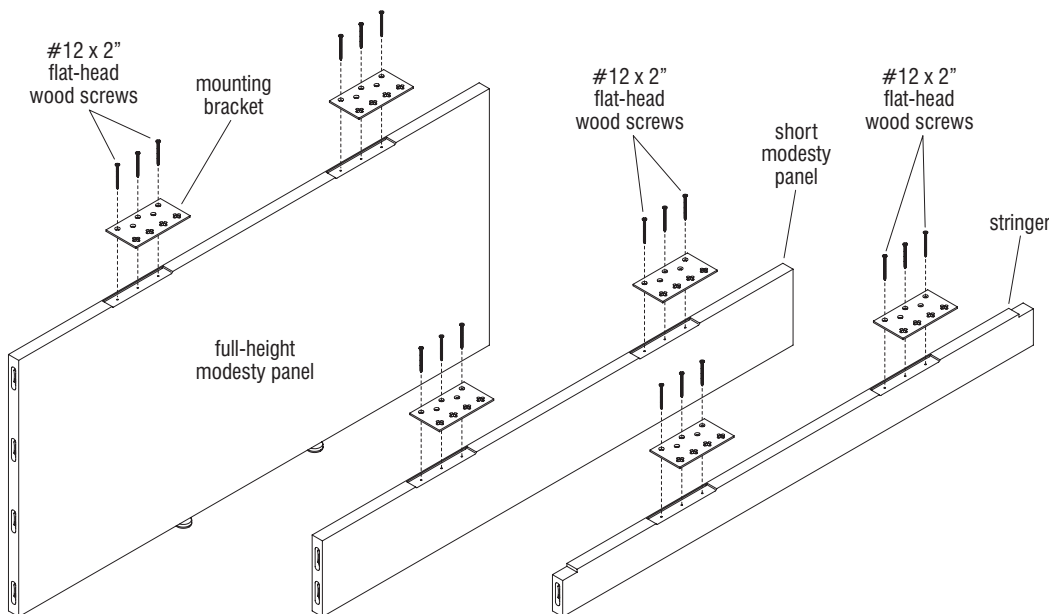

Figure 4
4. Carefully rotate short modesty panel, full-height modesty panel and/or stringer into the upright position and balance, or lean them against a sturdy surface. Locate two mounting bracket cutouts at the top of the stringer and/or modesty panel. Position a mounting bracket over one cutout and align the three mounting holes on the bracket with the three pilot holes in the cutout. Secure the bracket to the stringer or modesty panel using three #12 x 2" flat-head wood screws. Repeat this process to secure the remaining brackets (Figure 4).